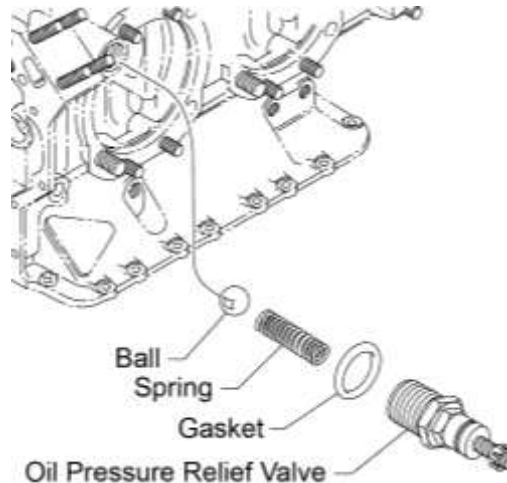

Figure 5
- B. Remove the oil pressure relief valve, spring, ball, and gasket (Figure 5) from the crankcase. Discard the gasket.
- A. Install a new gasket on the oil pressure relief valve (Figure 5).
- B. Install the spring in the oil pressure relief valve (Figure 5).